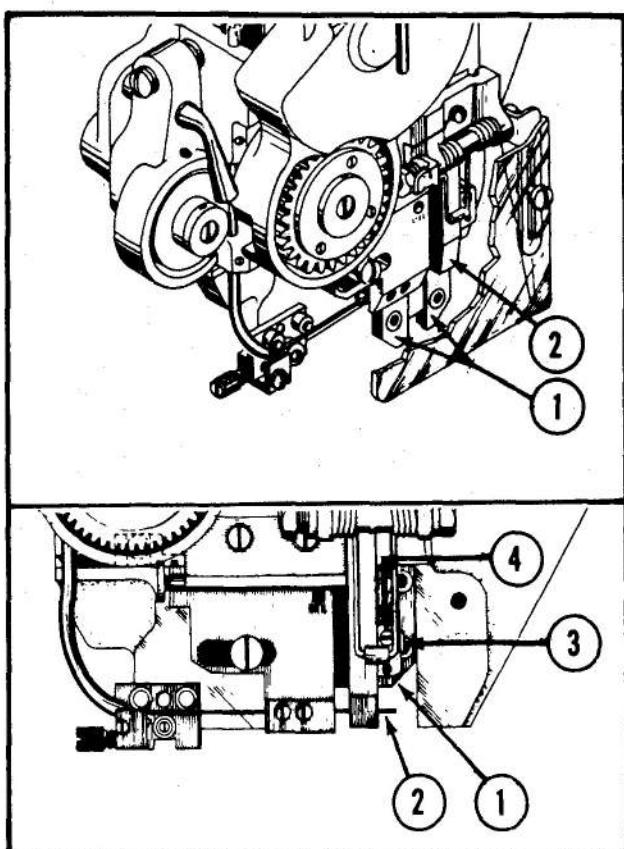
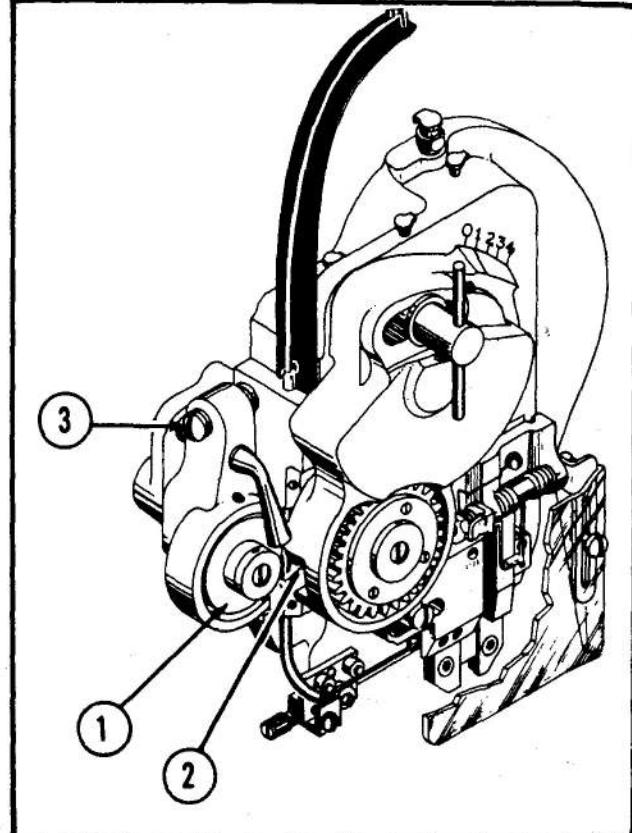

Figure 13—Adjustments for Aligning Gripper Bar and Formers
Figure 14—Wire Fed Gear Tension Adjustment
6. HOW TO ALIGN GRIPPER BAR AND FORMERS (See Fig. 13)
a. Turn over the machine manually and, as the formers (1) descend, check that the grooves in the formers are in exact alignment with the wire length being held by the gripper bar (2).
b. If they are not in alignment, (usually resulting in deformed crown surface), loosen the clamp block holding screw (3). Then turn gripper bar adjusting screw (4) in or out, as required, until alignment is correct. After adjustment has been made, tighten clamp block holding screw (3).
7. HOW TO ADJUST TENSION OF WIRE FEED GEARS (See Fig. 14)